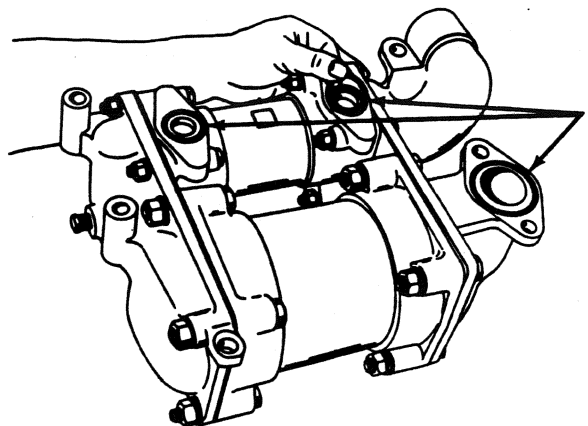

Fig. 6 -- Installing O-rings in Oil Cooler Assembly (T-51745)
8. Install new O-rings in the oil cooler assembly, Fig. 6, and install the oil cooler by a direct reversal of the removal procedure.